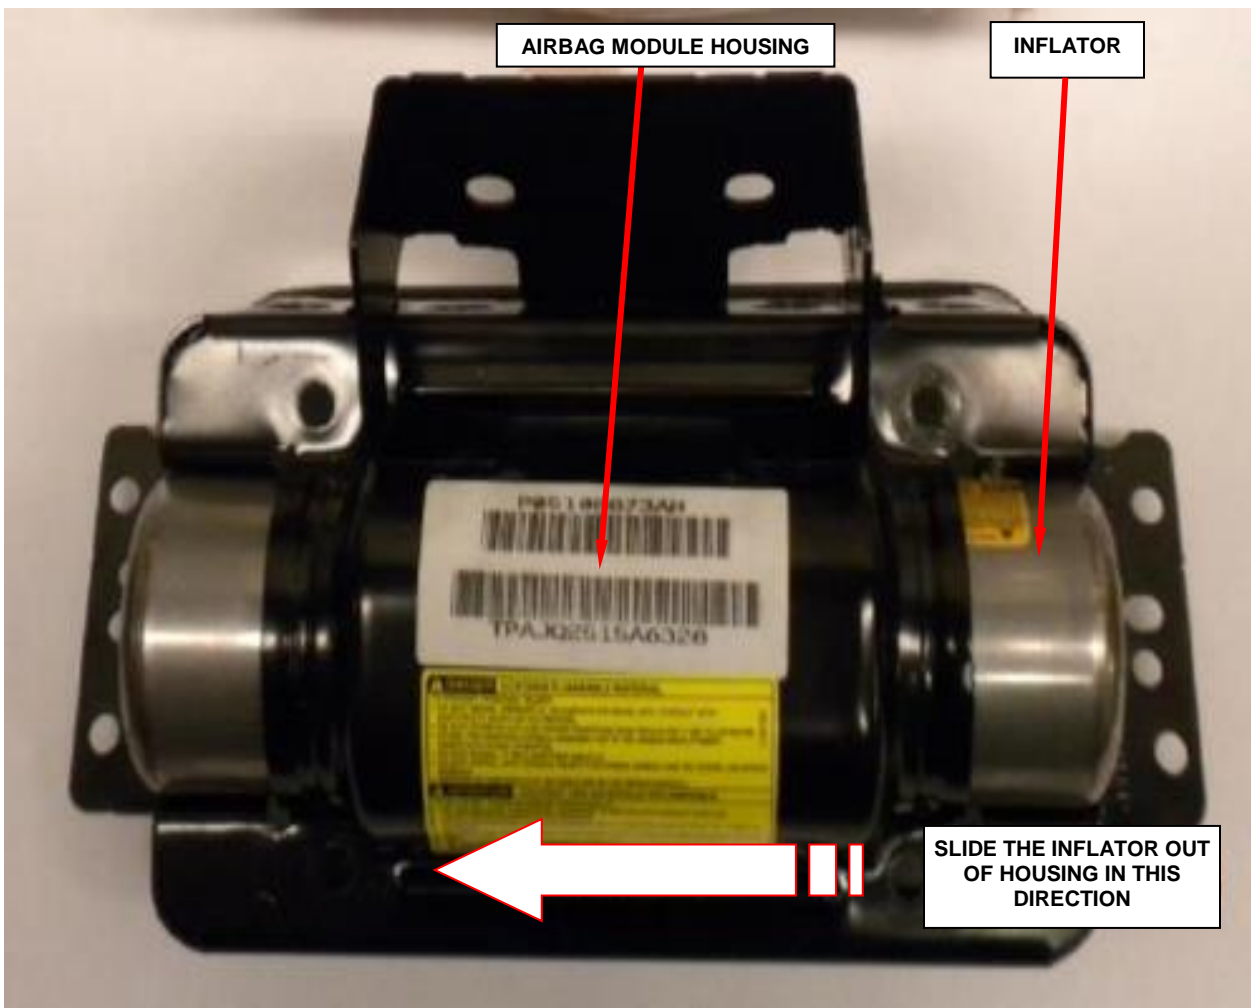

Figure 57 – Remove Airbag Inflator
- k. Slide the inflator out of the passenger airbag module housing (Figure 57).